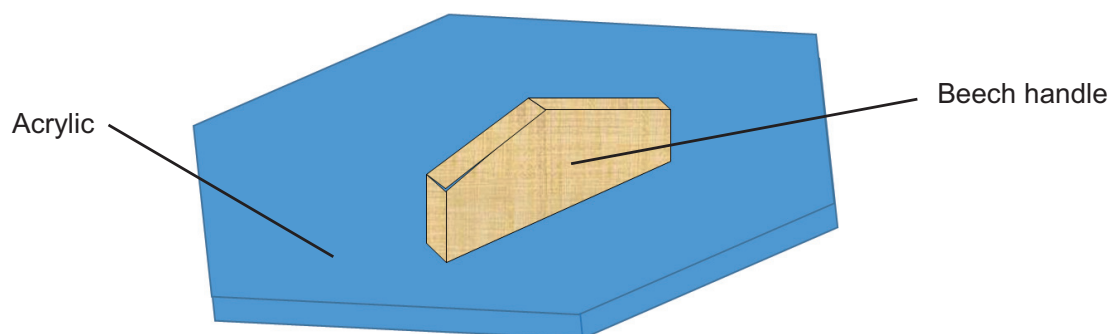

Fig. 2
- 2 **Fig. 2** shows a sketch of the lid for a box. The two materials used in the manufacture of the lid are acrylic and beech. The acrylic part of the lid is to be produced using a CAD/CNC process in a school workshop.